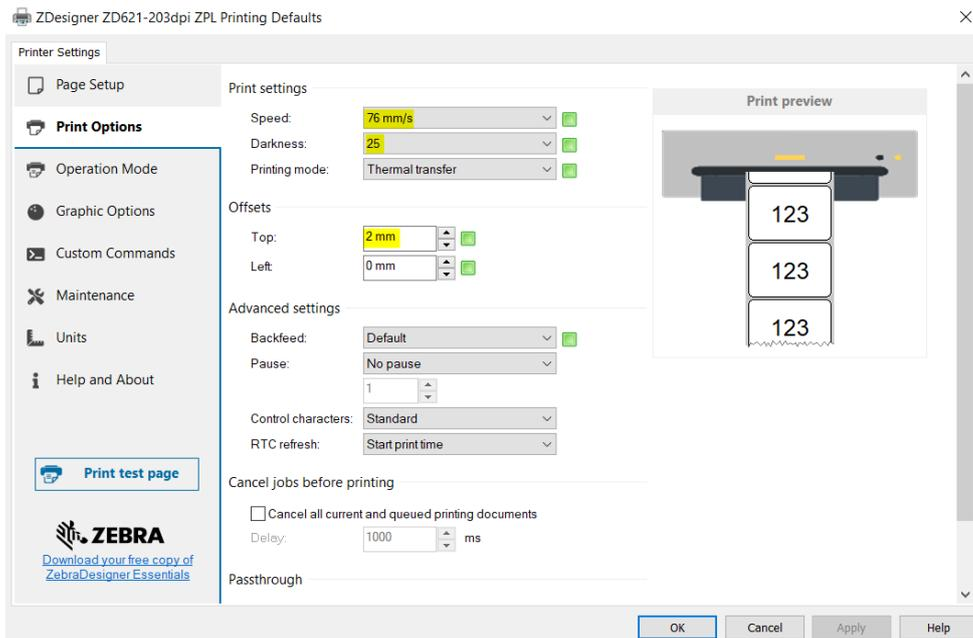

Figure 6: Print options
- Figure 6: Print options4
Once you finish the **Page Setup**, select **Print Options** and adjust the speed, temperature and printing mode (Figure 6).